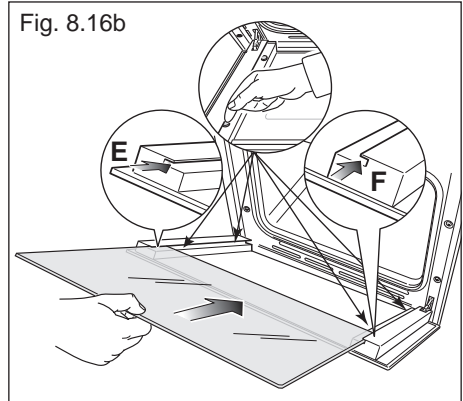
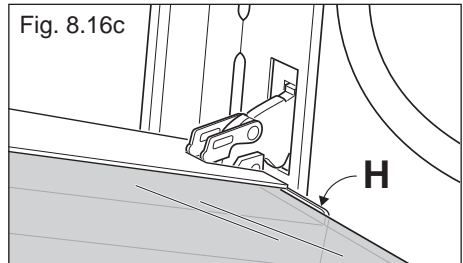

Fig. 8.16b
Fig. 8.16c
IMPORTANT: It is advisable, while refitting the glass, to keep pressed in position the four rubber pads "D", by a finger, to avoid breakage or slippage of the rubber pads themselves (fig. 8.16b).
- Insert the pane in the left "E" and right "F" slide guides (fig. 8.16b), and gently slide it to the retainers "H" (fig. 8.16c).